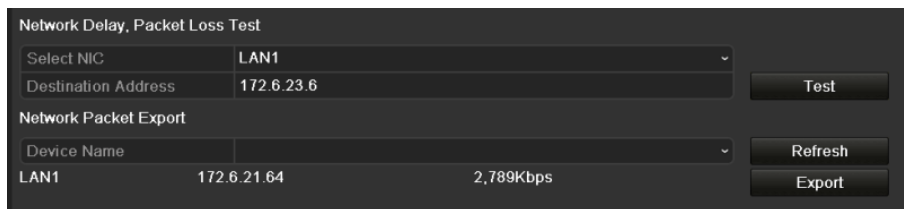

Figure 12-30 Network Detection Interface
Step 2 Click the **Network Detection** tab to enter the Network Detection menu, as shown in Figure 12-30.